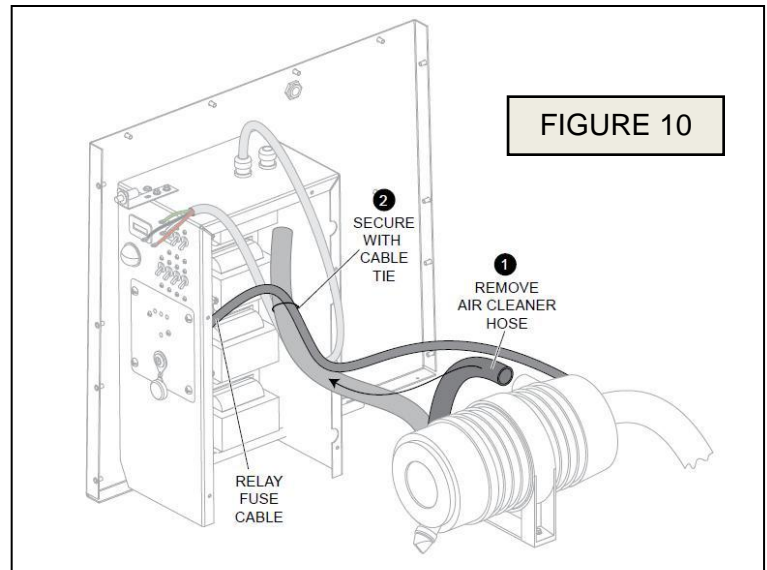

FIGURE 10
STEP 7: REMOVE AIR CLEANER HOSE Perkins Engine Only Refer to FIGURE 10